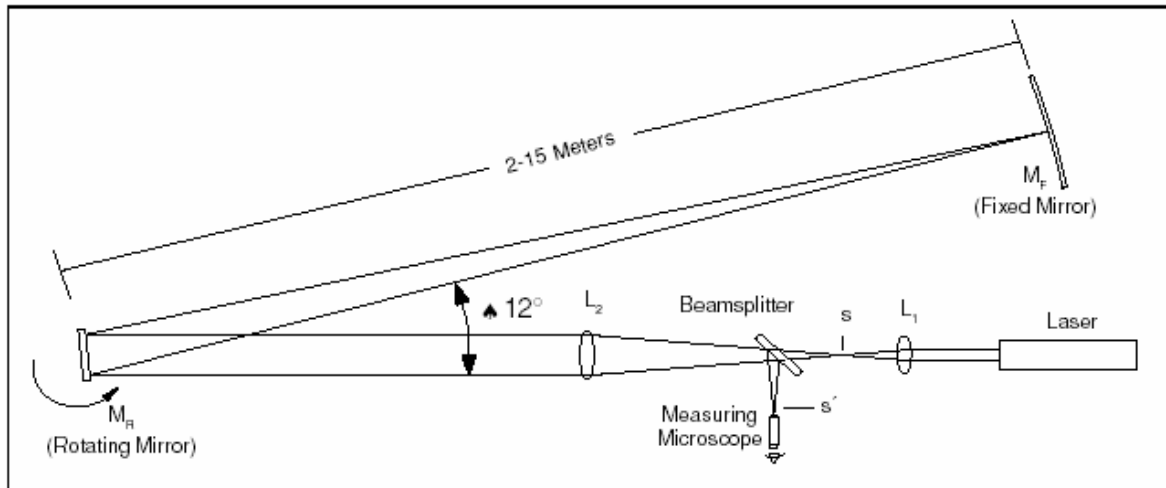

Figure 11: Positioning the Fixed Mirror ( $M_F$ )
14. Place the Fixed Mirror ( $M_F$ ) from 2 to 15 meters from  $M_R$ , as shown in Figure 11. The angle between the axis of the Optics Bench and a line from  $M_R$  to  $M_F$  should be approximately 12 degrees. (If it is greater than 20-degrees, the reflected beam will be blocked by the Rotating Mirror enclosure.) Also be sure that  $M_F$  is not on the same side of the optical bench as the micrometer knob, so you will be able to make the measurements without blocking the beam.